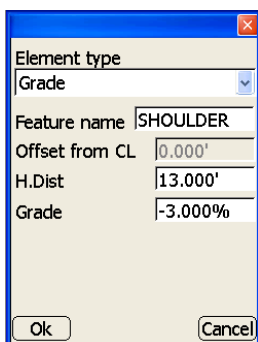

Figure 3-40. Add Template Elements Dialog Box (Example)
- Template elements – on the **Template elements** dialog box, template elements can be created, edited, or deleted. After creating template elements press **Ok** to continue (Figure 3-40 on page 3-26).
On the **add template elements** dialog box, templates can be created, edited, or deleted. After creating, editing, or deleting templates, press **Next** to continue (Figure 3-40 on page 3-26).